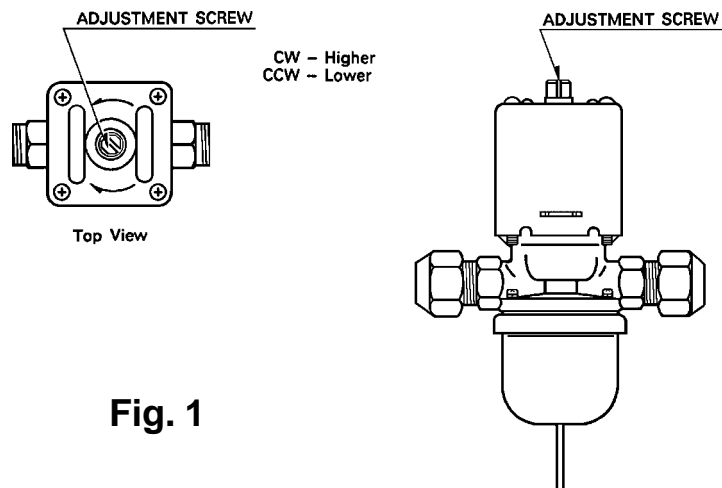

Fig. 1
- 2) Rotate the adjustment screw by using a flat blade screwdriver, so that the pressure gauge shows the temperature specified in the table, 5 minutes after a freeze cycle or icemaking process starts. When the pressure exceeds 270 PSIG, or the condenser drain temperature exceeds the temperature range, rotate the adjustment screw counterclockwise. See Fig. 1.